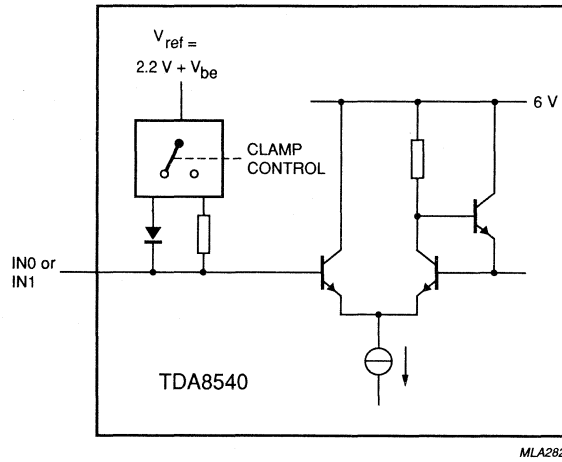
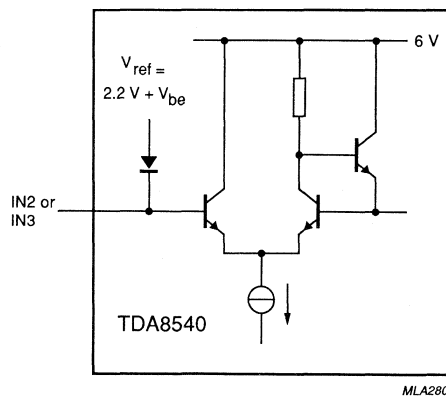

Fig.10 IN0 and IN1 inputs.
Fig.11 IN2 and IN3 inputs.
- The simplified circuit is given by Fig. 10 for the IN0 and IN1 inputs and by Fig. 11 for the IN2 and IN3 inputs.